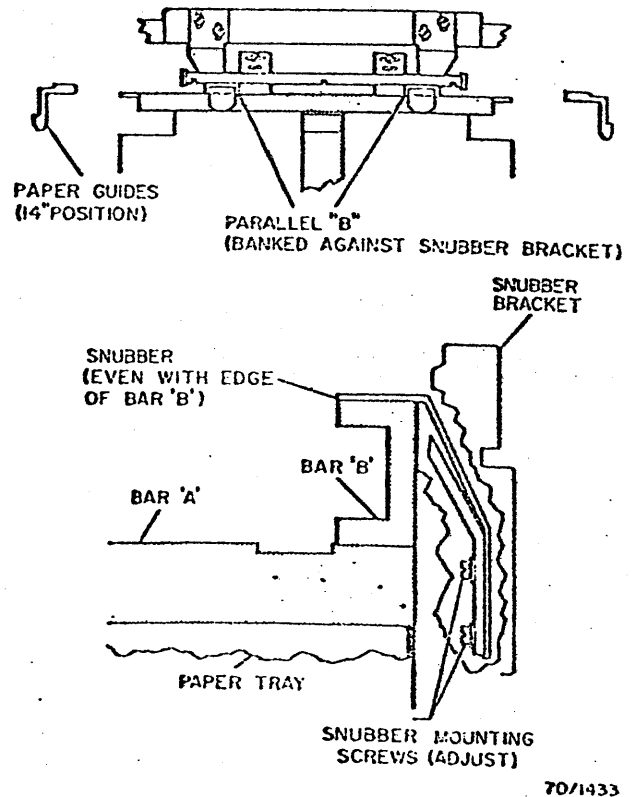

Fig. 3-83. Flexible Snubber
2. Loosen the snubber mounting screws (Fig. 3-83).
3. Place the parallel bars on the tray as in Fig. 3-83. Check that the snubbers lie flat on parallel B and the snubber ends are even with the edge of the parallel bar. Remove and reform the snubbers if necessary.